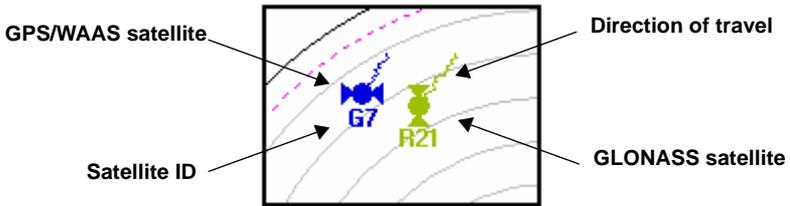

Figure 3-49. GPS and GLONASS Satellite Icons
- GPS and GLONASS satellite icons: displays the type of satellite begin tracked, the direction of travel for the satellite, and the satellite’s ID (Figure 3-49 on page 3-91). The color of the satellite icon corresponds to the colored bars in the *signal-to-noise ratio histogram*.